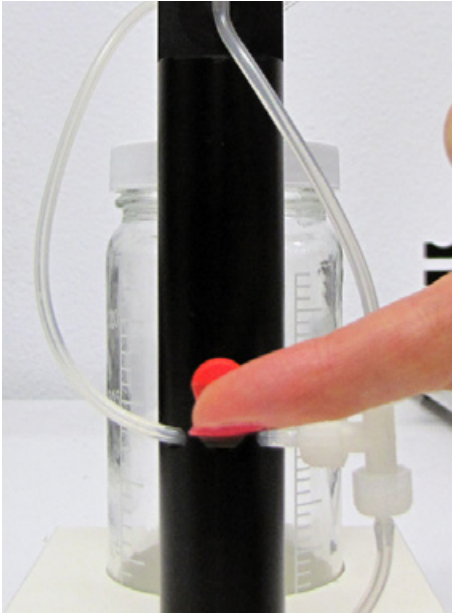

Fig. 37—Lift the spring-loaded pinch valve to allow the waste fluid to be evacuated into the reservoir
3. Gently lift the pinch valve and hold it up until the liquid in the cuvette and line tubing is completely evacuated (**Fig. 37**).